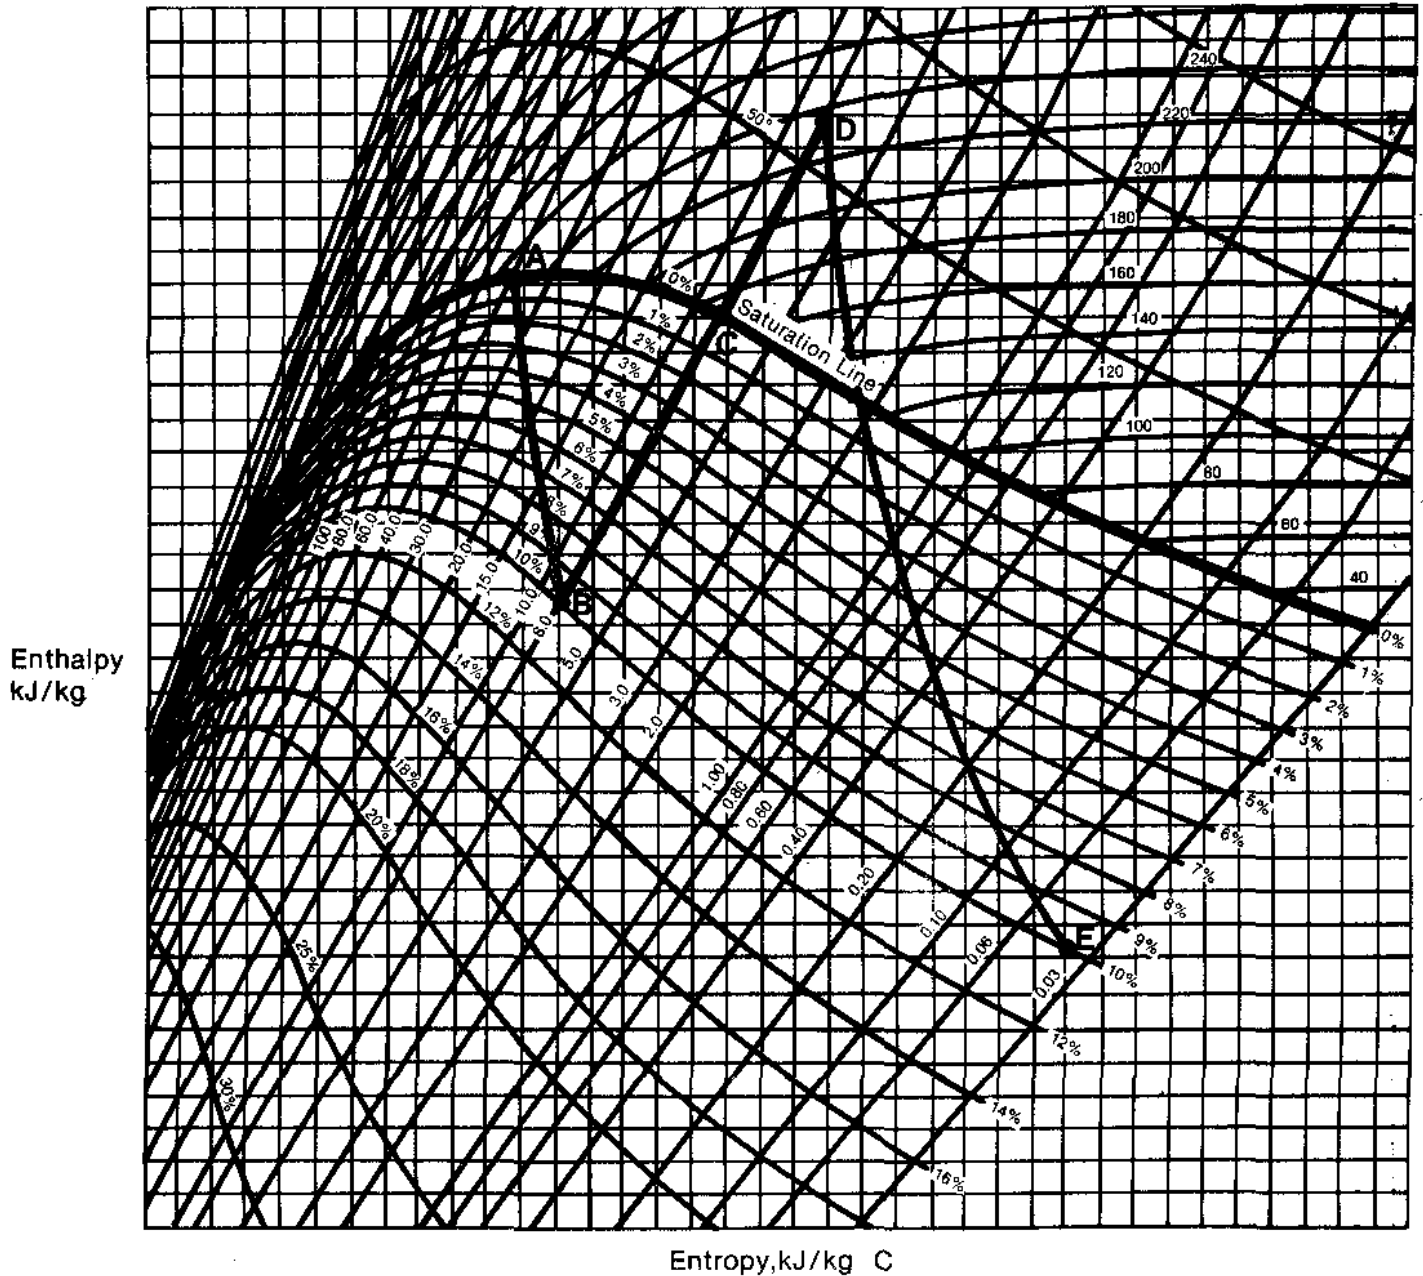

Figure 6.12
The steam now enters the low pressure (LP) turbine. It expands, cools, and condenses, generating shaft mechanical energy as it flows. At the LP turbine exit the steam is typically about 10% wet at 30°C and 4 kPa(a). This part of the process is shown in Figure 6.12 from D to E.